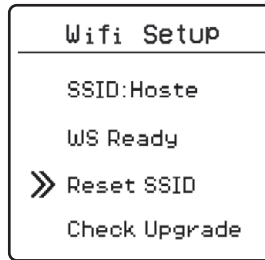
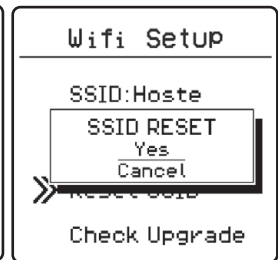

Fig. 17
Fig. 18
3. Use the arrow keys to select the **Reset SSID** menu item, then use the arrow keys to select **YES** and confirm the selection by briefly pressing the Enter button (Fig. 17 and Fig. 18).